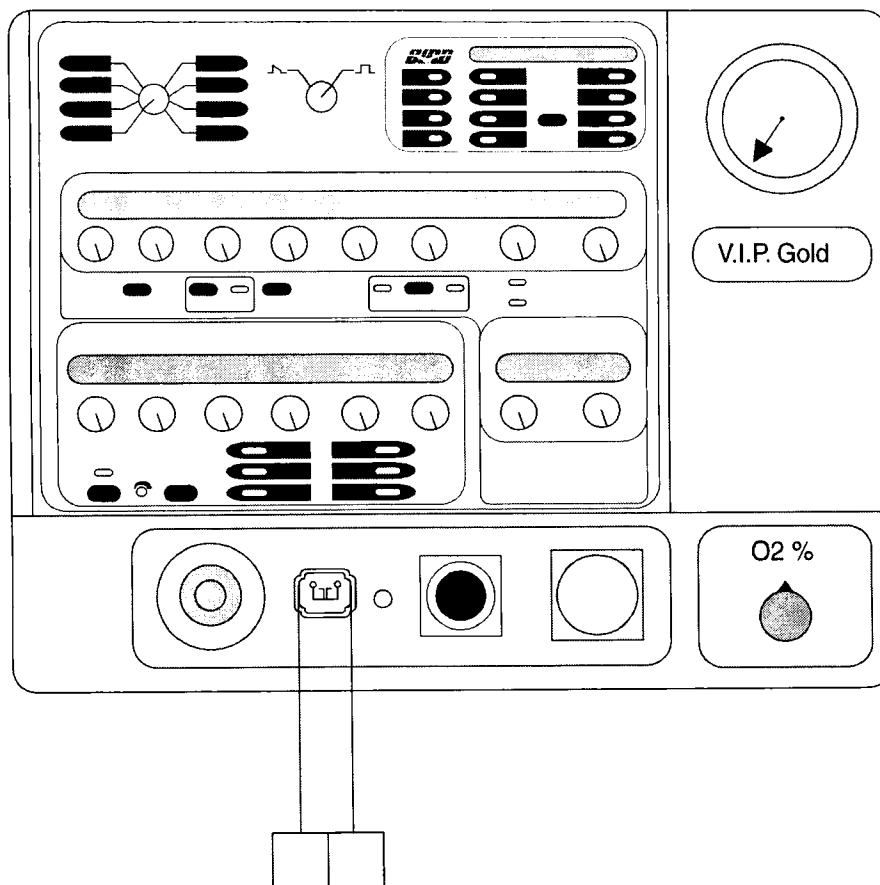

Figure 5.10
- 23.1 Press the Select button, the monitor display will read **VM SL CK**. Connect an Infant flow transducer P/N 15678 to the ventilator. See figure 5.10